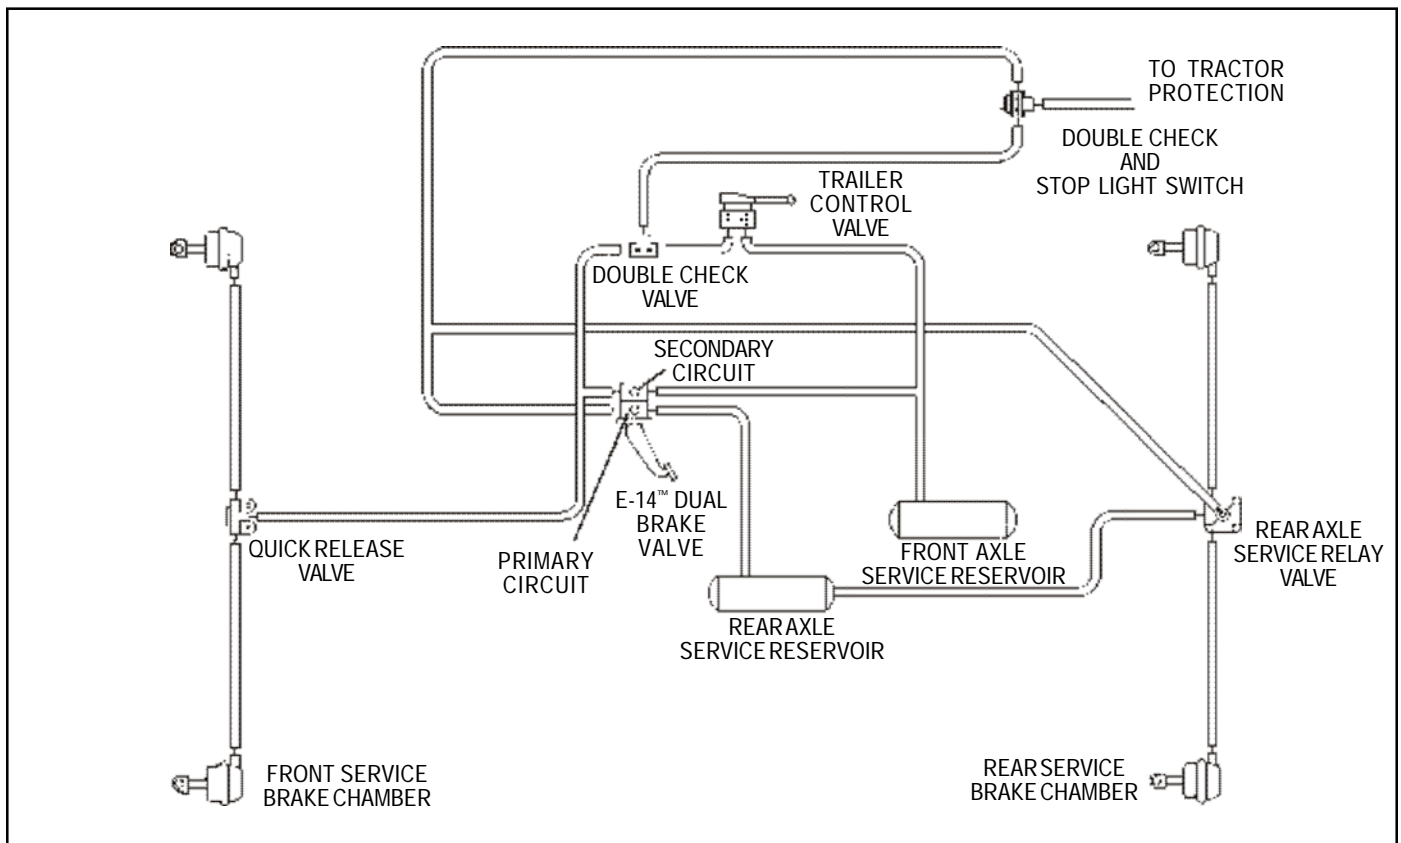

FIGURE 2 - TYPICAL PIPING SCHEMATIC
2. On valves that have a manifold on the engine compartment side, remove the bolts that secure the manifold to the valve. Separate the valve and manifold and remove the sealing rings and adapter sleeves. (See Figure 2.)
3. Remove the four cap screws(16) that secure the primary body to the secondary body. Separate the two body halves and remove and discard o-ring(17).
4. Pull secondary piston(18) out of the primary body and remove and discard o-rings(19 & 20).
5. Remove and discard snap ring(10) from the secondary body while manually holding and compressing valve seat(11) in place.
7. Remove and discard valve assembly(13) along with its o-ring(15) from the secondary body. Remove the valve assembly return spring(14).
8. Carefully remove and discard exhaust diaphragm screw(24), diaphragm washer(25), diaphragm(26), and diaphragm retainer(27) from the secondary body. **NOTE:** Some **E-14™ brake** valves have a threaded exhaust port instead of items 24-27.
9. Using light force, push piston(2) into the primary body until piston retaining ring(1) is fully visible. Remove piston retaining ring(1), taking care not to damage the piston bore in the body.
10. Gently tap the primary body on a soft surface to remove piston(2). Remove and discard o-rings(3 & 5) and both wear rings(4) from piston(2).
11. Place the piston on a flat surface. Using finger force, depress and hold spring retainer(7), then remove and discard retaining ring(6) from piston(2).
12. Gently release spring retainer(7), allowing it to rise out of the piston. Remove spring retainer(7) and graduating spring(8) from piston(2).
4. If primary piston(2) is reused, make certain that vents "A & B" are open and free of obstructions. (See Figure 2.)
5. Make certain vent "C" is open in the primary body of the valve. (See Figure 2.)